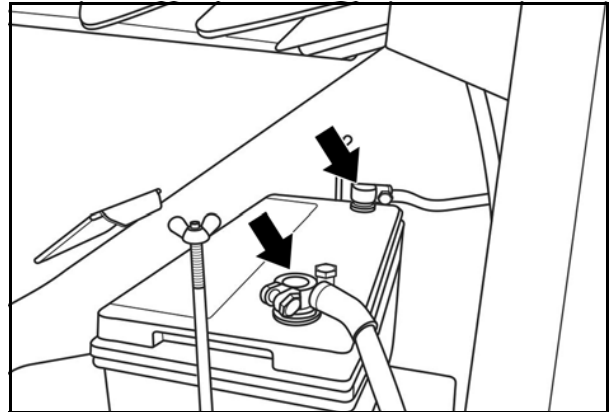

FIG. 79
3. Disconnect the terminals (arrows), beginning with the negative terminal. (Fig. 79)